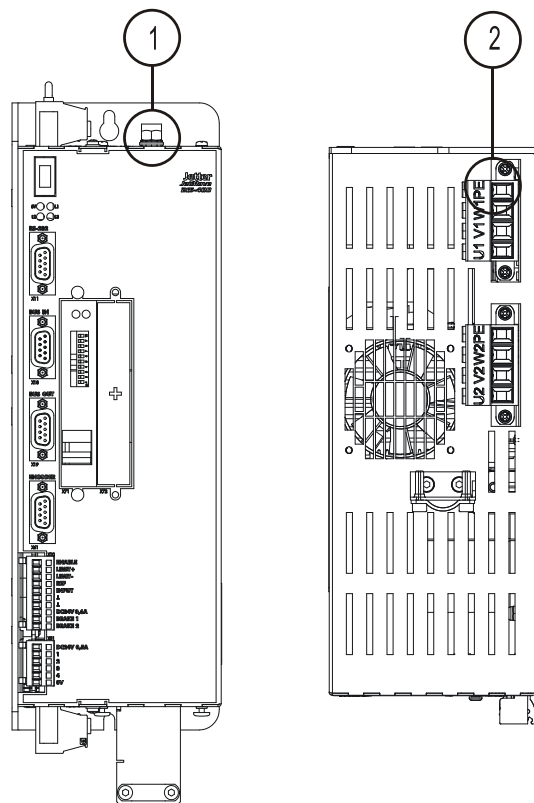

Fig. 1: Double earthing
- The protective earth bus has to be connected to the PE (GND) bolt (1) located at the top side of the rack as well as to the PE (GND) terminal X1 (2) (please refer to Fig. 1).
- Connect the earth to the cover. For this please refer to Fig. 1 on page 16.